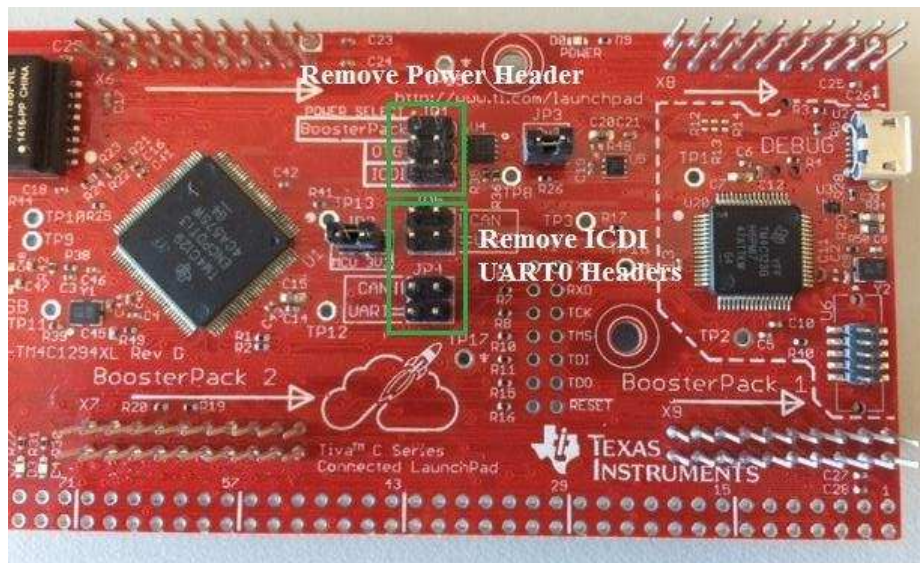

Figure 17. Target Board Setup
2. Configure the board to perform the role of a target, as shown in Figure 17.